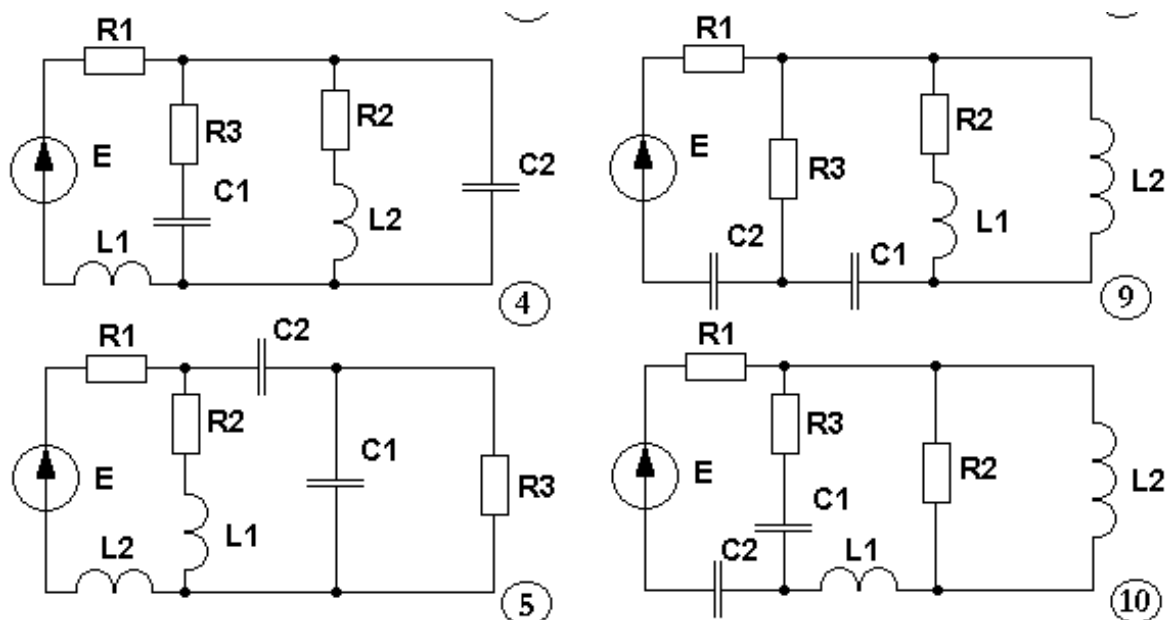

Fig. 6.1. Variants of schemes.
2. Draw in the protocol of laboratory work in Fig. 6.2 the studied scheme in accordance with the option (Fig. 6.1 and Table 6.1). Indicate in the diagram the nominal values of resistors and voltage sources.